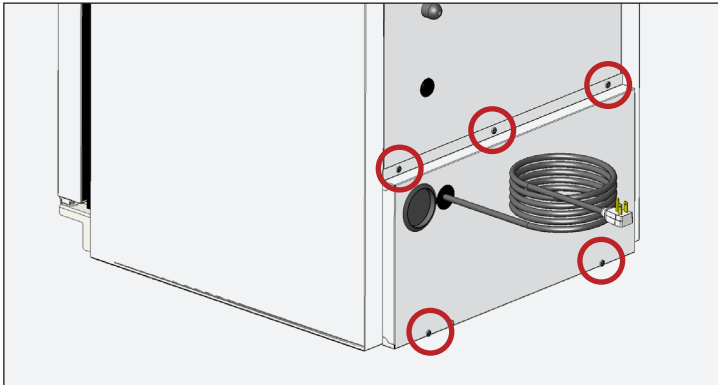

Fig. 1. Rear cover screw locations.
2. Remove the rear cover grill. See fig. 1.